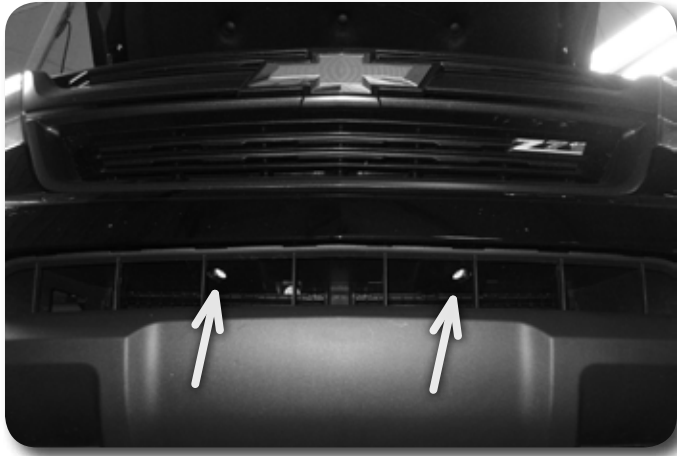

Figure 5
12. Remove the 2 center fascia mounting bolts. See Figure 5